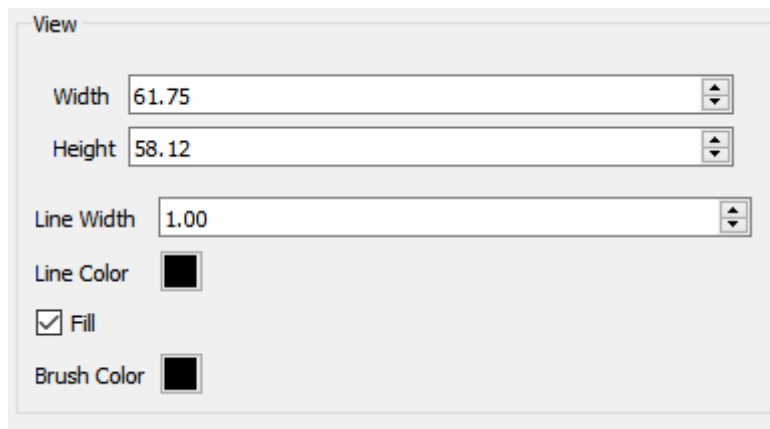

Figure 18.23: The view tool for an ellipse.
- To add an ellipse or rectangle, click the  or  icon in the main toolbar. Click and then drag in the workspace to draw the shape. Properties can be adjusted with the View tool in the toolbar shown in Fig. 18.23.